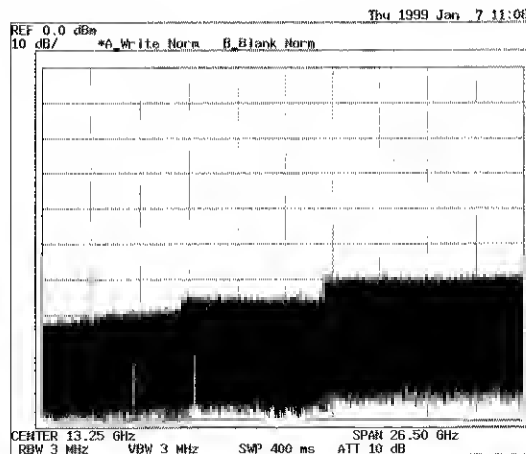

Figure 1-5 Start-up Screen
The analyzer performs the Initial test (processing time: approximately 10 seconds). The start-up screen is displayed as shown in Figure 1-5.
1. There is a possibility that the screen display is different from the one shown in Figure 1-5, depending on previously saved conditions.
The start-up screen is displayed as shown in Figure 1-5.